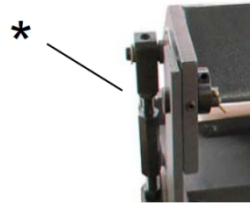

figure 7
2. Loosen the setscrews at the back of the hold down assembly as indicated by the "*" in (fig. 7). Insert a tool, such as an allen wrench, into one of the spoked holes of the eccentric hub and rotate it, which moves the hold down assembly either forward or back. When the fingers are at the correct setback distance and parallel to the clamp block edge, tighten the setscrews "*" .